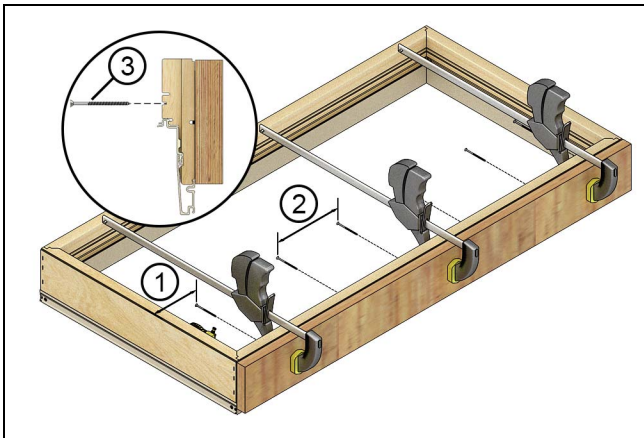

Figure 23
2. Clamp the LVL member to one of the units flush with the interior. Fasten the LVL to the unit with #8 x 1 1/4" screws from the interior 4" (102) and 12-15" (305-381) on center (same plane as the jamb screw holes). See Figure 23.